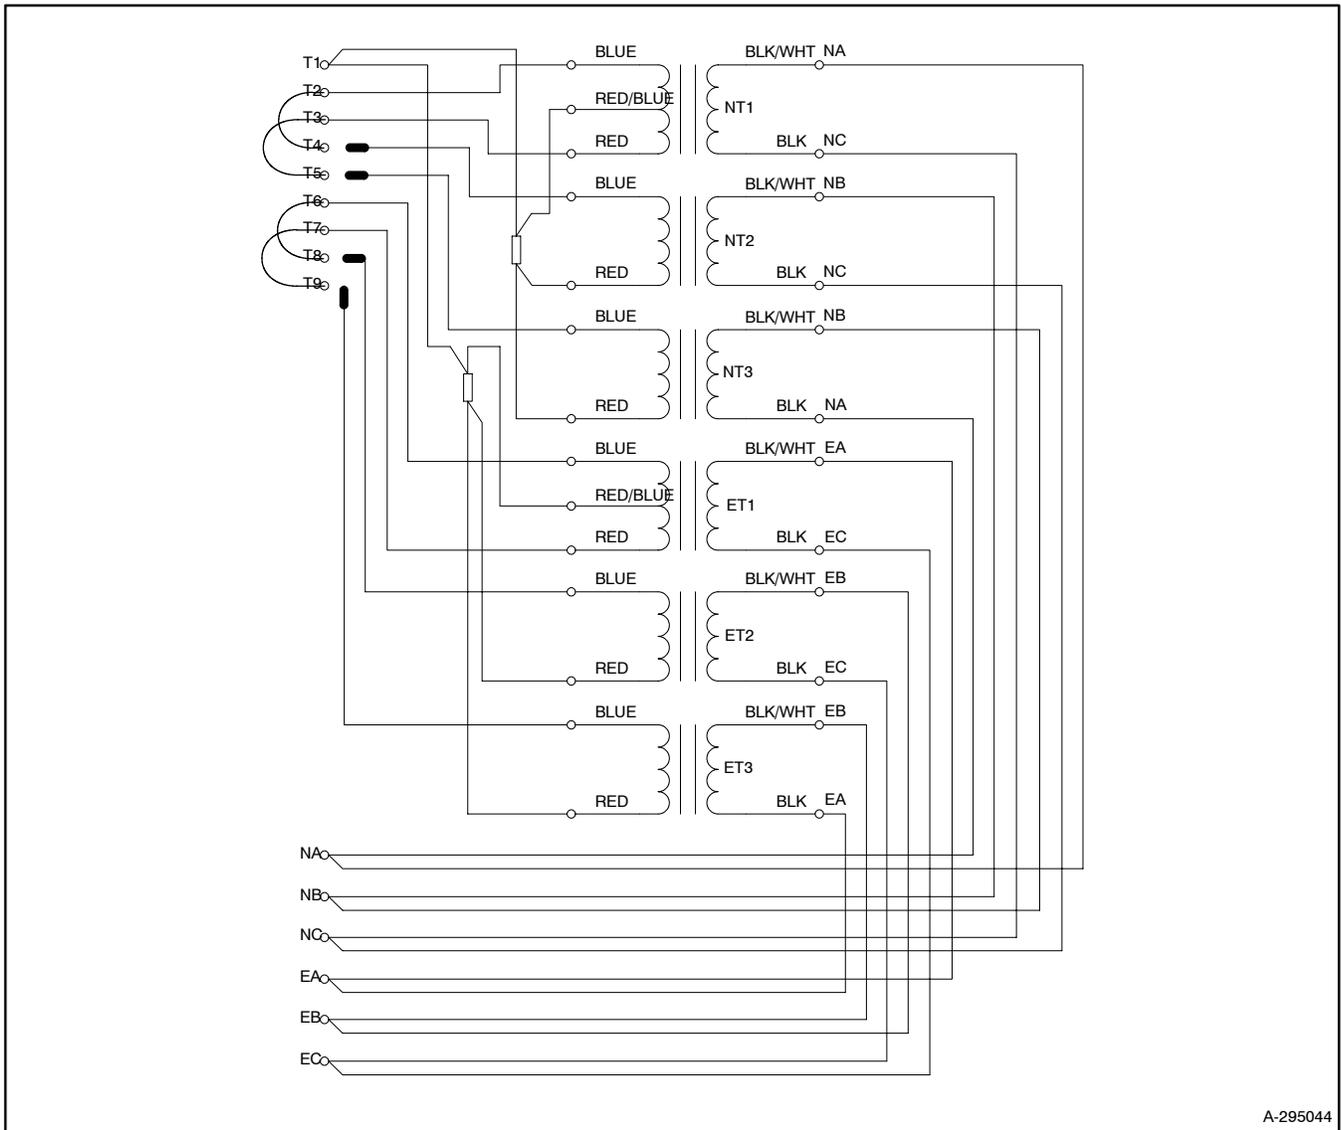

Figure 3 Rewiring a 3-phase Normal Source, 3-Phase Emergency Source Transformer Assembly for 1-Phase Operation
8. If the switch has 3-phase emergency source sensing such as when accessory KA-5-F or KA-5-G is installed, complete the following steps. See Figure 3.